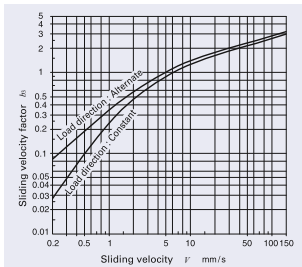

Fig.3 Sliding velocity factor
- $b_3$  : Sliding velocity factor (Refer to Fig.3.)
- $C_{da}$  : Dynamic load capacity considering temperature increase N (Refer to equation (1).)
- $P$  : Equivalent radial load N (Refer to equation (2).)